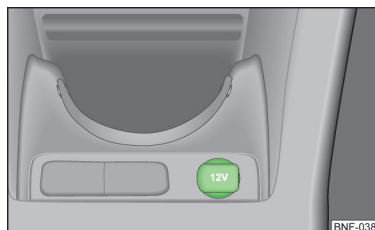

Fig. 57
The 12-volt electrical outlet (hereinafter referred to only as a power socket) is located in the storage compartment in the front centre console » Fig. 57.
► Open the power socket cap » Fig. 57.